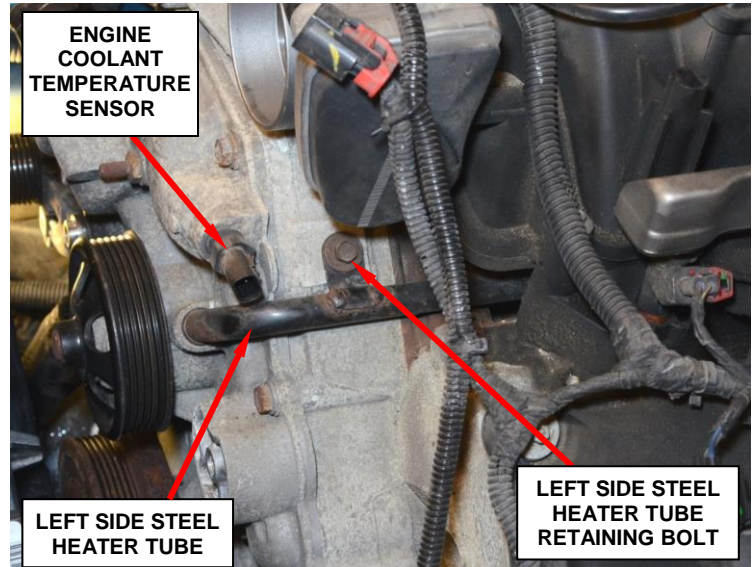

Figure 17 – Left Side Steel Heater Tube
93. Lubricate the O-ring onto the left side steel heater tube and install the heater tube into the timing cover (Figure 17). Install the retaining bolt and tighten the fastener securely.
98. Connect the engine coolant temperature sensor electrical connector (Figure 17).